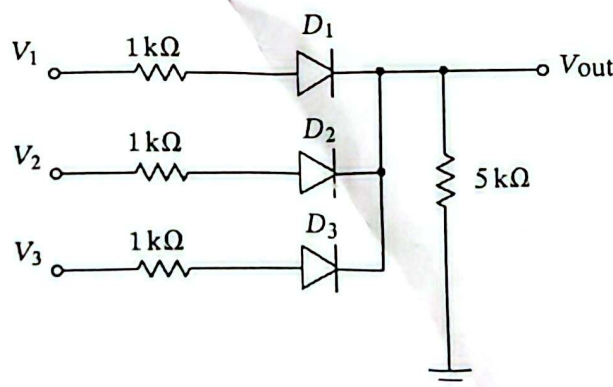

Fig. 2(a)
2. a) The circuit in Fig. 2(a) shows a 3-input OR gate implemented using diode logic (DL). Each input (V_1, V_2, V_3) can take either 0V (Logic 0) or 5V (Logic 1). The diodes are assumed to have a forward voltage drop $\approx 0.7V$. For the circuit: 15